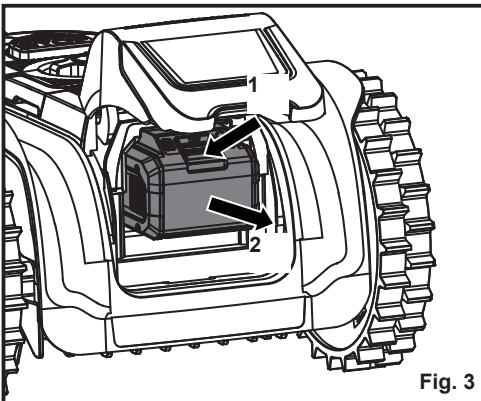

Fig. 3
2. Press and hold the release button on the battery pack (1), grasp the battery pack firmly and pull out (2) of the battery compartment (Fig. 3).